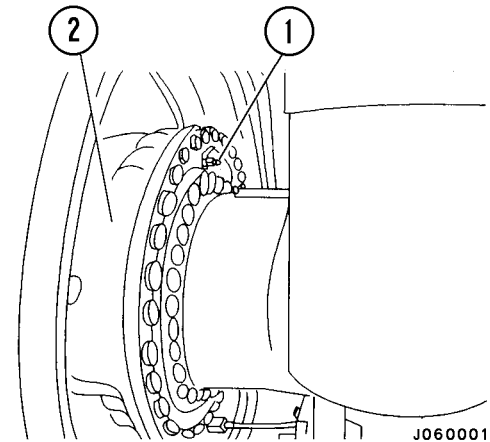
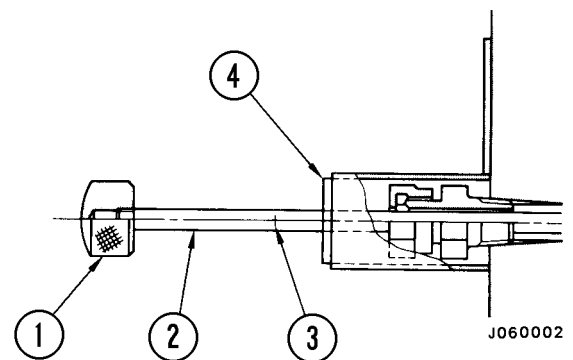

FIGURE 4-11. REAR BRAKE WEAR
FIGURE 4-12. REAR BRAKE WEAR TOOL
2. Remove air bleed plug (1, Figure 4-11) located on the rear brake. Install disc wear measurement gauge as shown in Figure 4-12.
4. Pull retarder control lever to full stroke. Push the wear gauge in until it contacts the piston, then check the position of the stamped mark on the rod. (See figure 4-12)